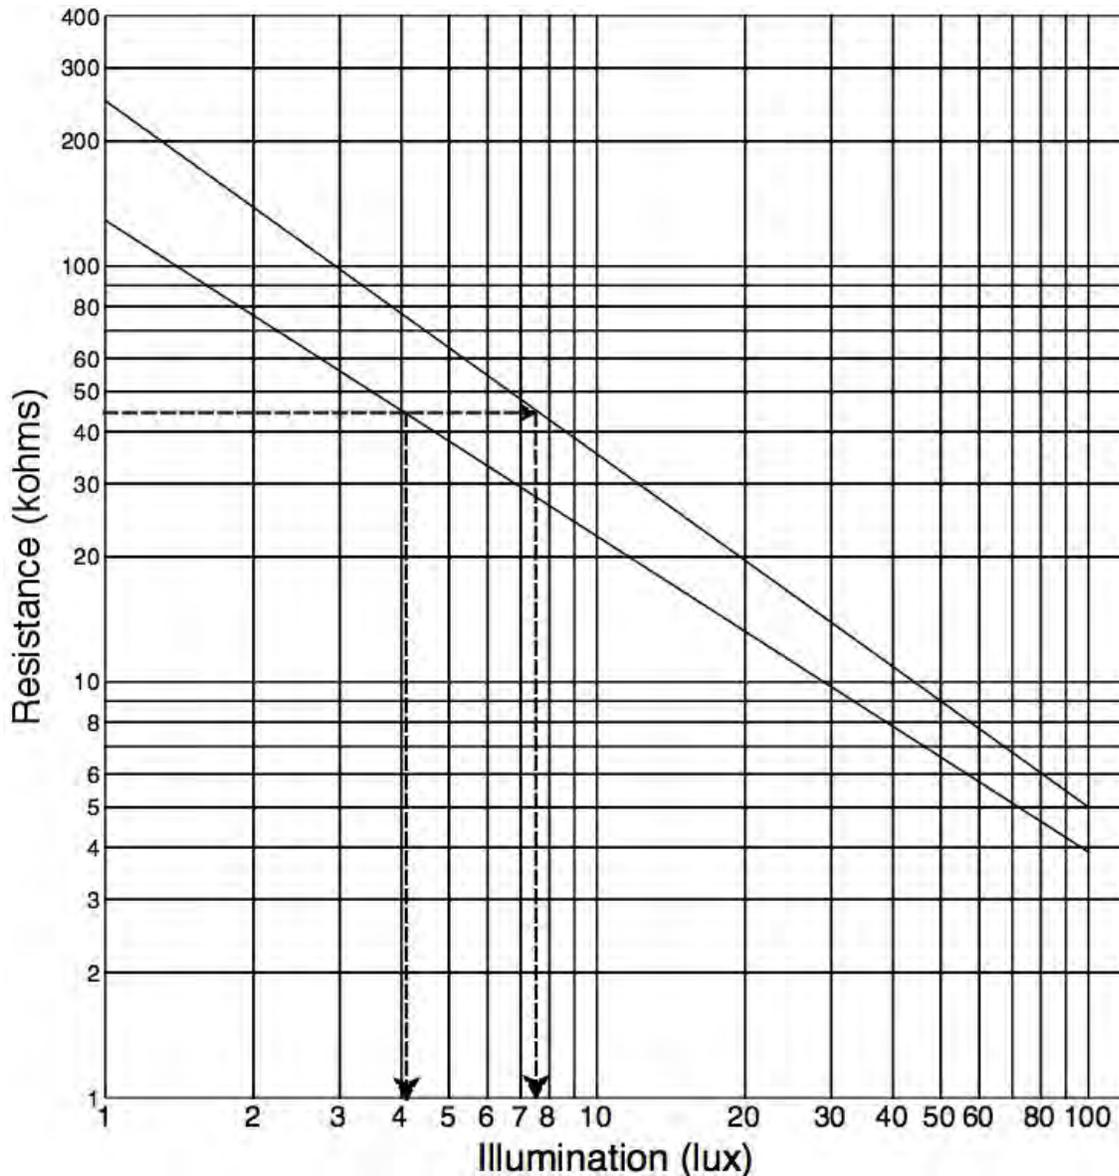

Figure 17.8.
- g) Go to **Figure 17.8** and find the dashed horizontal at about 47,000 ohms. This line intersects the lower diagonal line at about 4.1 lux on the X axis and it intersects the upper diagonal line at about 7.4 lux. The illumination intensity exists somewhere between 4.1 and 7.4 lux. (For a better answer, you could plot data obtained from your sensor and use plot to determine lux for a measured resistance. That process requires a calibrated light meter and it would take a long time to accumulate all the data.)
The graph method seems like too much work! Instead of calculating each light-intensity value, engineers could rely on a look-up table to match the ADC value (0 to 4095) with an illumination-intensity value. You would create this type of table – probably as an array – to match an ADC value (0 to 4095) with a specific light intensity (1 to 100 lux). This approach eliminates the math steps just explained in detail. You can use the LightSensorData.xls spreadsheet included in the Experiment 17 software folder to calculate the photoresistor resistance that corresponds to each of the ADC's 4096 outputs. The spreadsheet contains values for a 100,000-ohm series resistor and a 3.30-volt power supply, but you can change these values as you wish. To create this spreadsheet I extracted data from the diagonal lines in **Figure 17.8** and used them to derive an equation for each line. (For more information see the Notes section at the end of this experiment.) With this calculated information in the Excel results you could create an array with index values from 0 to 4095 and put the